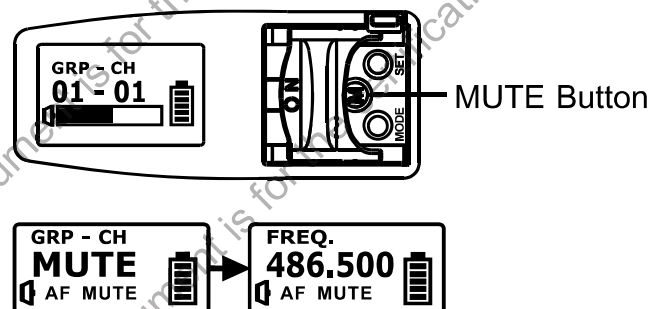

Fig. 17
- (1) ROM-ER → Channel wasn't programmed or internal data error.
- (2) ERROR1 → RF frequency targeting circuitry is failed.
- (3) NO----03 → The set frequency exceeds the upper band. The transmitter frequency will not be changed but it can be operated as long as the power switch is turned on again.
- (4) NO----04 → The set frequency exceeds the lower band. The transmitter frequency will not be changed but it can be operated as long as the power switch is turned on again.
(H) MUTE Button. Fig. 17:
- (1) Press MUTE button to enter MUTE status, the Audio Signal Level Bar ①9 shows AF MUTE and blinks, and all operations and the ACT function are still workable.
- (2) Press MUTE button again to unmute. AF MUTE will be disabled automatically when power off.
- (3) MUTE button is only workable under MAN (Manual Setting) mode.